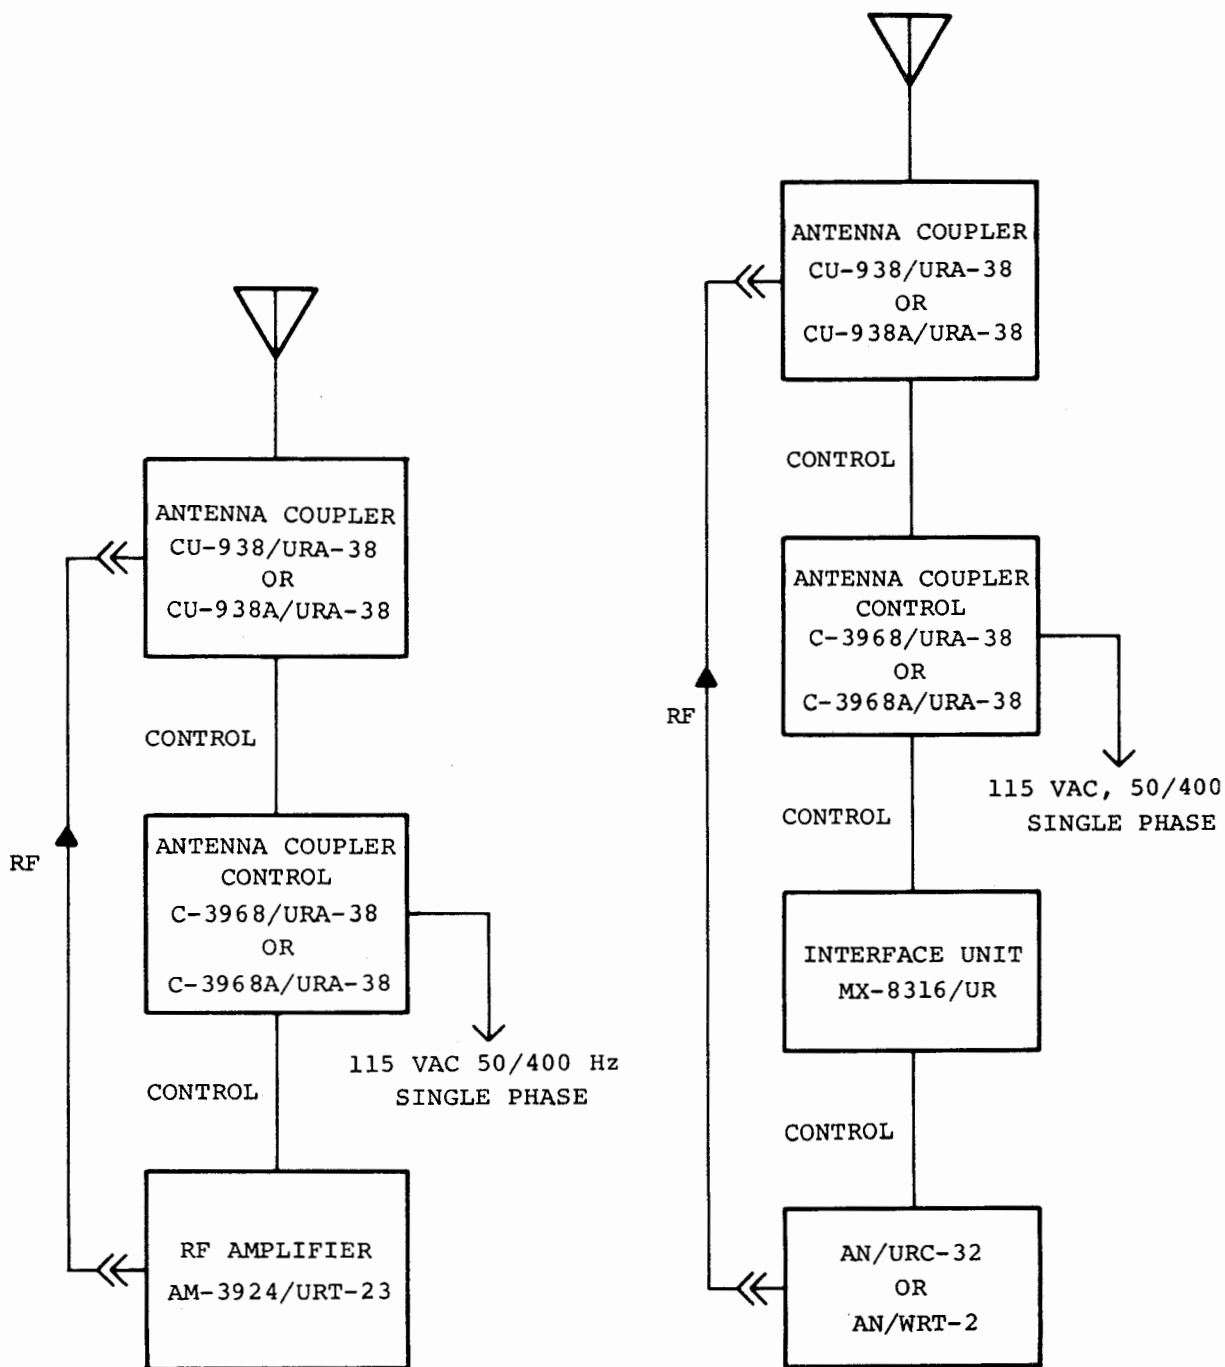

Figure 6-16 Antenna Coupler Groups AN/URA-38 And -38A
c. INTERCONNECTION DIAGRAM. - See Figure 6-16.